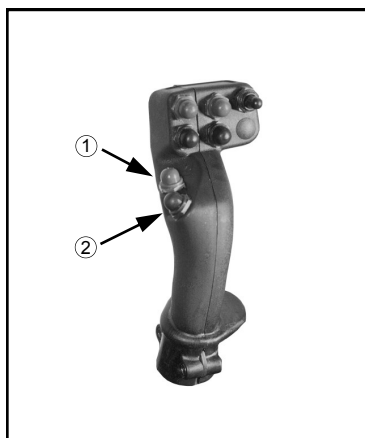

FIG 5.9
To raise and lower the transom/boom assembly, depress the “GRAY” (UP) or the “RED” (DOWN) buttons on the hydrostatic drive handle (fig. 5.9, item 1 & 2). While depressed, either button activates the transom lift cylinders (fig. 5.8).